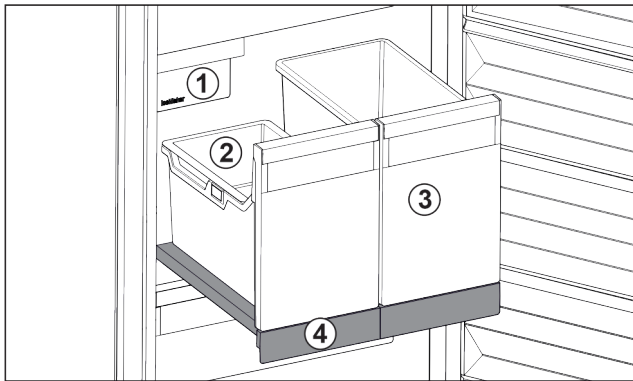

Fig. 83 Pull-out board with IceTower
- (1) IceMaker
- (2) Hang-on tray for ice cubes
- (3) Container for pizza or alcoholic beverages, for example
- (4) Pull-out board
On the pull-out board are two tall containers (IceTower). Ice cubes from the IceMaker are collected and stored in the container Fig. 83 (2). The container Fig. 83 (3) is suitable for storing tall foodstuffs or beverages such as pizzas or alcoholic drinks.